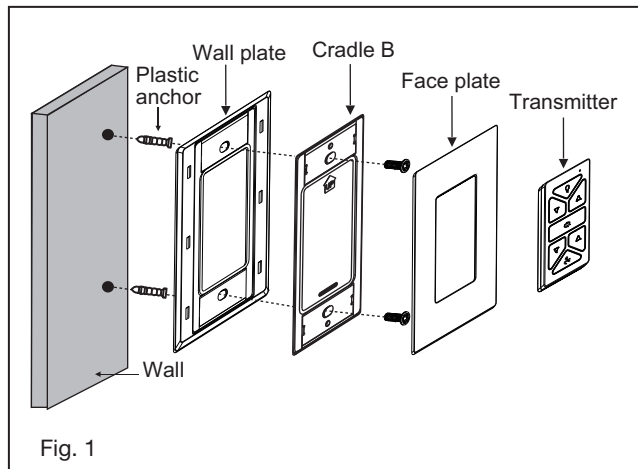

Fig. 1
- 1 Remove one of the three screws on the mounting hub located on the fan motor. (Fig. 1)
- 2 While holding the LED assembly under your fan, make the polarized plug connections: (Fig. 1)
- 3 Tuck connections neatly into LED assembly, place the LED assembly to the mounting hub with 3 screws provided. (Fig. 1)
- 4 Raise the light cover against the LED assembly and turn clockwise until snug, DO NOT OVERTIGHTEN. (Fig. 1)
- 1 Select a desired location. Use the wall plate to mark the location of the mounting holes. Plastic wall anchors or mounting screws are needed for this application. (Fig. 1)